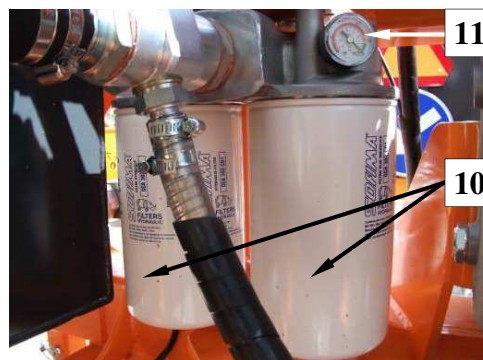

Fig. 57. Suction filter in hydraulics
Suction filter is equipped with two inserts CS 100 (10), contamination of which is determined with use of indicator located in upper part of casing MPS 300 (11) (Fig. 57).